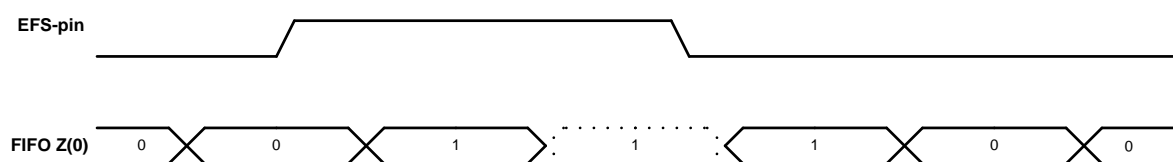

Figure 35: Timing diagram for external FIFO synchronization.
The EFS-pin depicted in Figure 35 is the Interrupt pin configured as EFS-Mode. FIFO z(0) is the least significant bit of the z-axis gyro data stored in the FIFO.